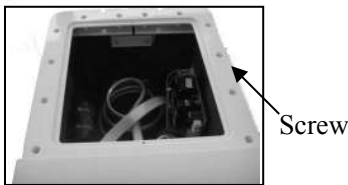
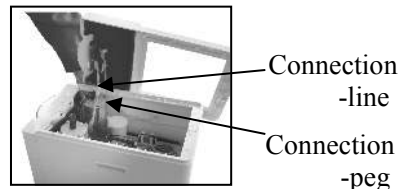

Figure 2
Figure 3
- Unscrew 12 fixing screws (Figure 2), pull out of the connection -line of display's 12-cores and connection-peg of switch 6-cores (Figure 3).